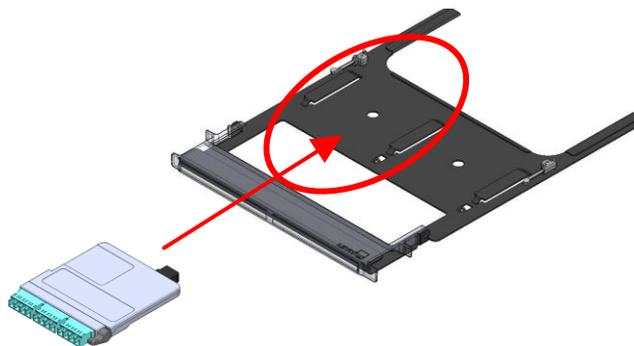

Figure 14
3. Insert the cassette or adapter plate as shown in Figure 14.